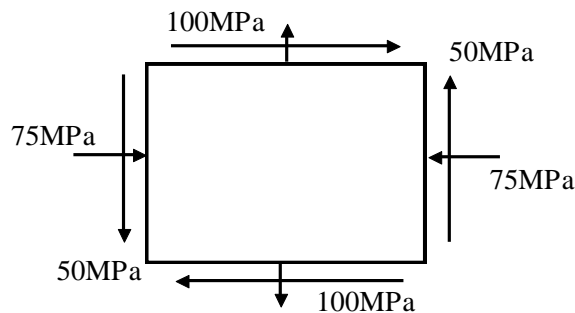

Fig. 6 (a)
6. a) A plane element is subjected to the stresses as shown in Fig. 6 10